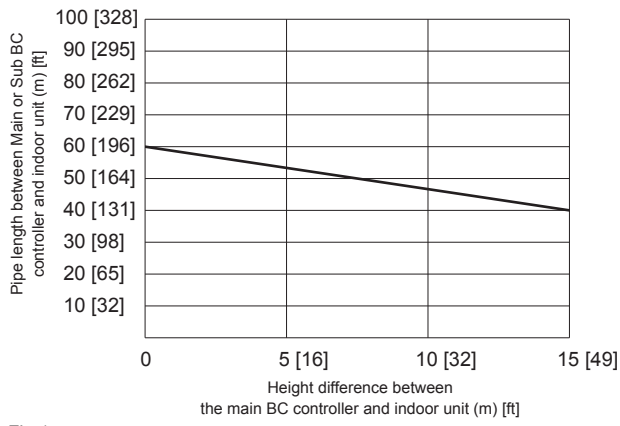

Fig. 1
- *2 Refer to Fig. 1. (However, when P72 or P96 model of indoor unit is connected, the maximum allowable distance between BC controller and farthest indoor unit is 40 m.)
- *3 When the piping length or the height difference exceeds the restriction specified in Fig. 1, connect a sub BC controller to the system. The restriction for a system with a sub BC controller is shown in Fig. 2. When a given system configuration falls within the shaded area in Fig. 2, increase the size of the high-pressure pipe and the liquid pipe between the main and sub BC controller by one size. When using P12, P15, P18, P36, or P48 model of indoor units, increase the size of the liquid branch pipe between the sub BC controller and indoor unit by one size. When using P54 or larger model of indoor units, the restriction shown in Fig. 1 cannot be exceeded.
*3 When the piping length or the height difference exceeds the restriction specified in Fig. 1, connect a sub BC controller to the system. The restriction for a system with a sub BC controller is shown in Fig. 2. When a given system configuration falls within the shaded area in Fig. 2, increase the size of the high-pressure pipe and the liquid pipe between the main and sub BC controller by one size. When using P12, P15, P18, P36, or P48 model of indoor units, increase the size of the liquid branch pipe between the sub BC controller and indoor unit by one size. When using P54 or larger model of indoor units, the restriction shown in Fig. 1 cannot be exceeded.